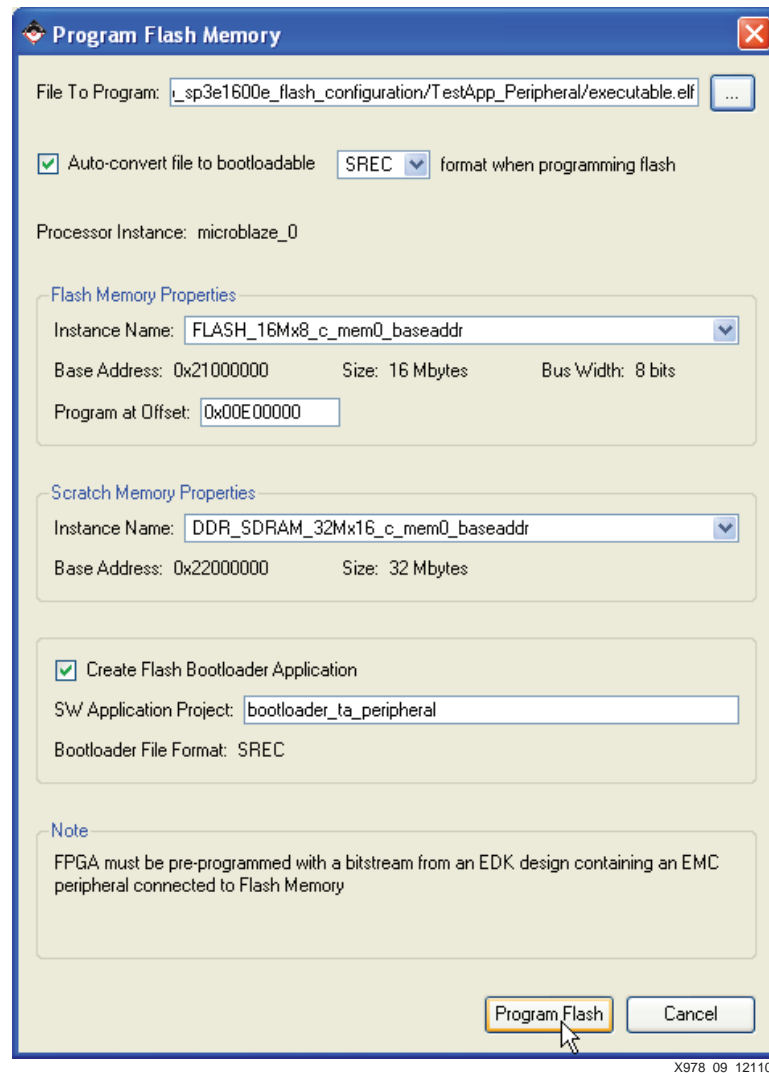

Figure 9: Program Flash Memory Dialog Box for the Peripheral Test Application
- In the Program Flash Memory dialog box, shown in Figure 9, choose the file to program to be `/TestApp_Peripheral/executable.elf` under the project root directory. Check the **Auto-convert file to bootloadable SREC format when programming flash** check box. Change the program offset to the desired value, allowing enough room for the MCS file, which will be programmed down from `0x00FFFFFF`. An example program offset, shown in Figure 9, is `0x00E00000`. A bootloader is created by clicking the **Create Flash Bootloader Application** check box in the Program Flash Memory dialog box.